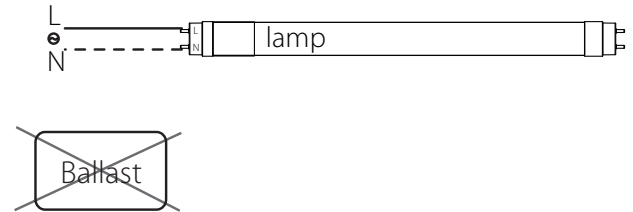

Fig: 8
4. If installing a single tube refer to Fig. 8. If connecting multiple lamps, connect separate neutral wire into "Neutral out" from primary source lamp holder and connect that wire into "Neutral in" on the adjacent tube. See Fig. 9 below.